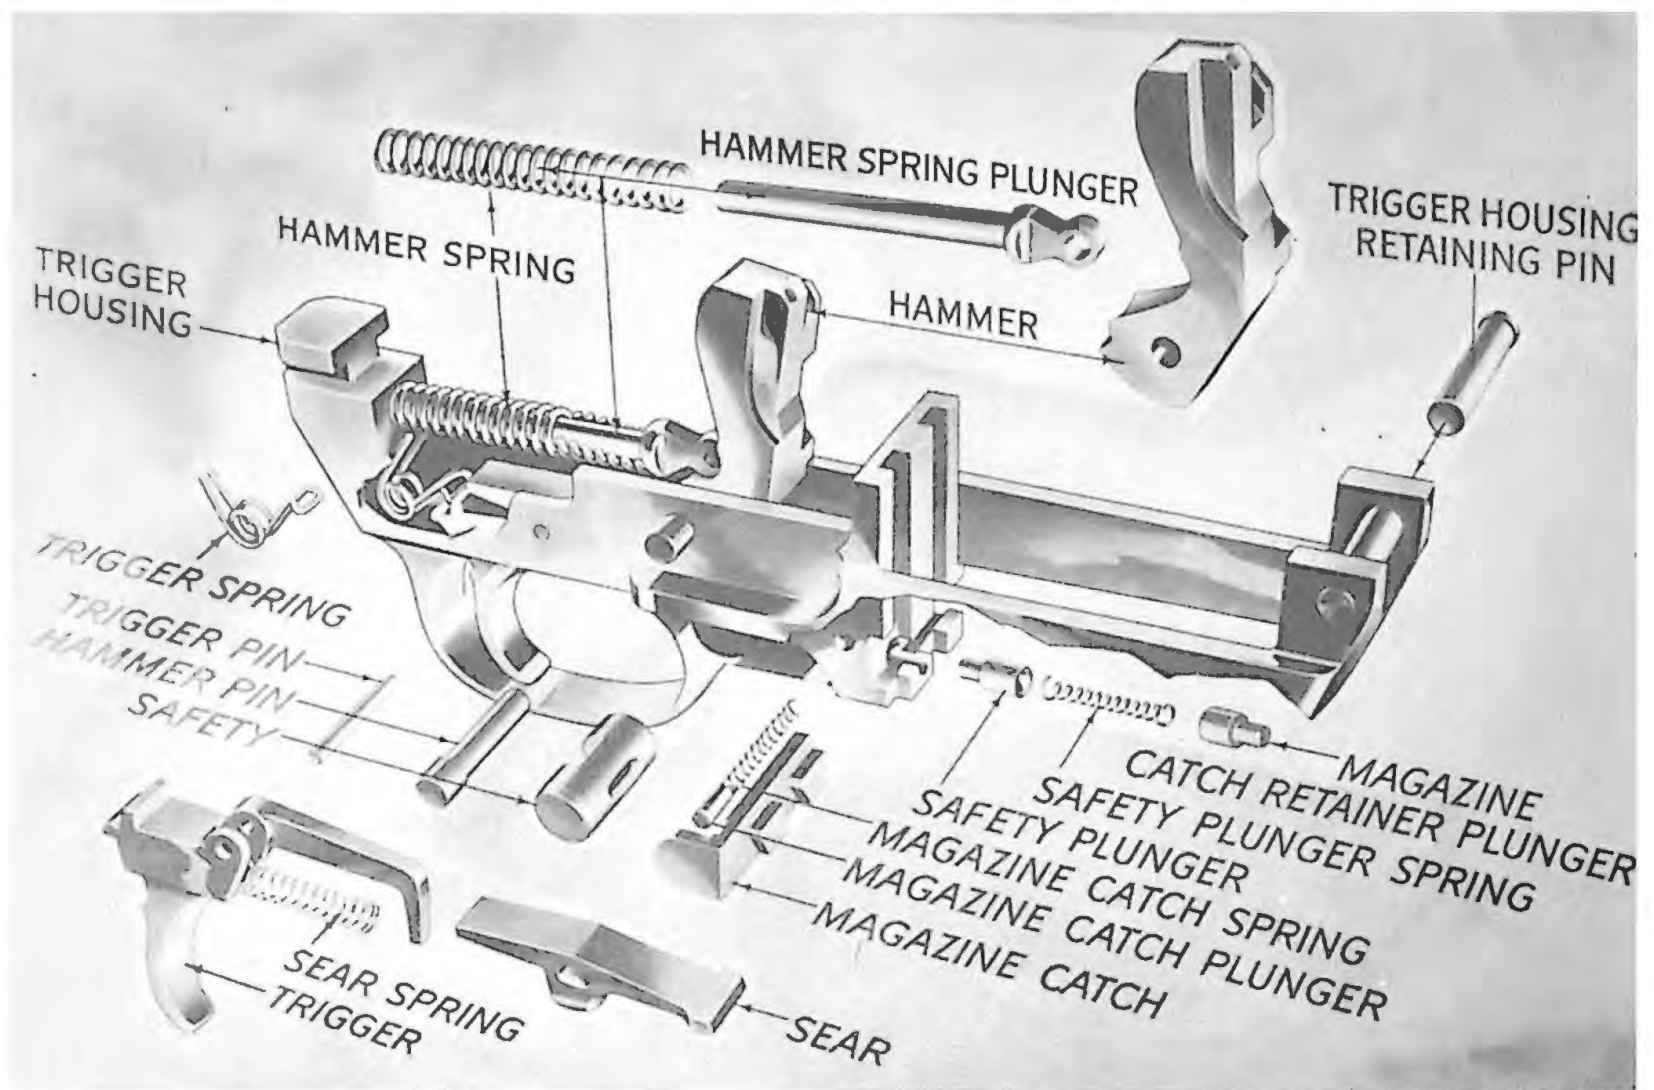

FIG. 8. Trigger housing assembly, U.S. carbine, caliber .30, M1.
(6) Trigger housing group. Cock the hammer by pulling the operating slide to the rear and pushing it forward. Turn the barrel so that the operating slide handle is down. Push the trigger housing retaining pin from its seat by starting it with the small end of the operating slide spring guide held in the right hand. Remove the pin. Grasp the barrel with the left hand, and the trigger housing group with the right hand. Remove the trigger housing group by sliding it to the left and disengaging its undercut grooves from the corresponding grooves in the receiver. (See fig. 8.)
(7) Operating slide. Rest the barrel on a level surface, muzzle to the front, sights up. Hold the rear end of the receiver against the body. Grasp the operating slide handle with the thumb and forefinger of the right hand and draw the slide all the way to the rear. With a slight upward pressure, move the slide forward until the guide lug on the handle engages in the dismount notch,